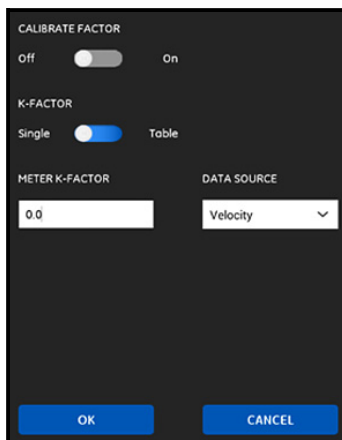

Figure 89: The Calibrate Factor Menu
1. Click on the **METER FACTOR** button to open the menu shown in *Figure 89* below.